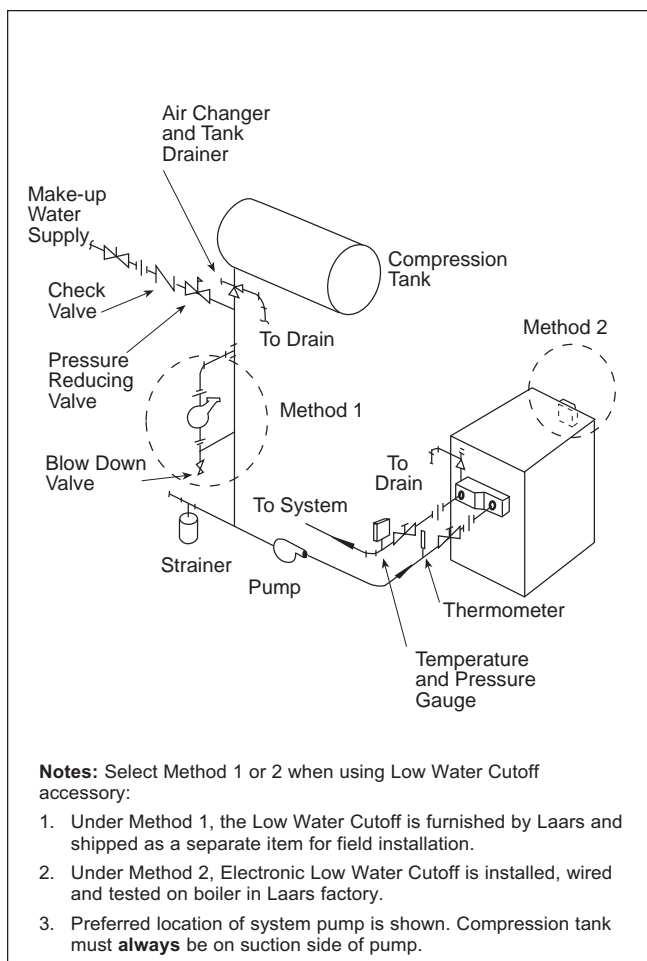

Figure 9. Boiler Piping.
3. A boiler installed above radiation level must be provided with a low water cutoff device either as part of the boiler or at the time of boiler installation (see Figure 9).
1. If a strainer is employed in a pressure reducing valve or in the piping, clean it every six (6) months.
2. At start-up and every six (6) months thereafter, the pilot and main burner flame should be observed for proper performance (see Figure 9 and 10; see attached lighting and shutdown instructions for proper pilot flame pattern). If flame has the appearance of “sooting” tips, check for debris near orifices. Call service technician.